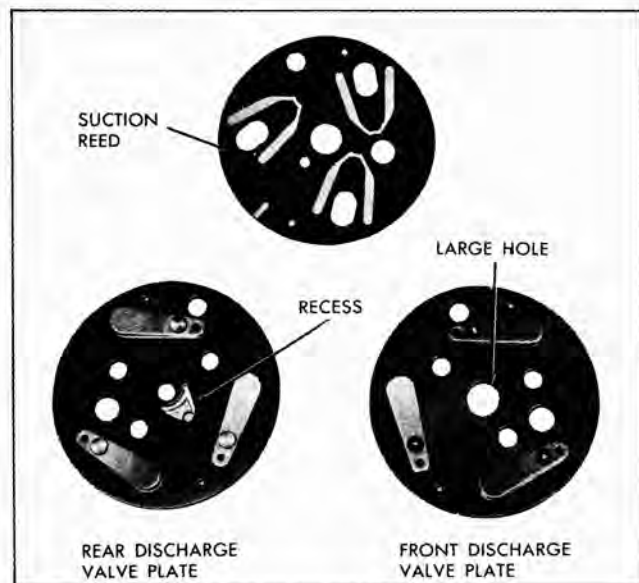

Fig. 5-92 Identification of Front and Rear Discharge Valve Plate
**NOTE:** The front discharge valve plate has a large diameter hole in the center (Fig. 5-92).
8. Apply an ample amount of clean 525 viscosity Frigidaire oil around angle groove at the lower edge of casting. Coat large diameter head to shell O-ring and assemble O-ring on shoulder of shell (at front) (Fig. 5-92).